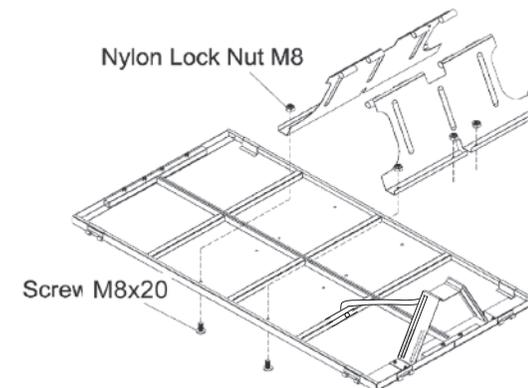

Fig. 3
**STEP 3: Attach the Wheel Axle Support (See Fig. 3)**